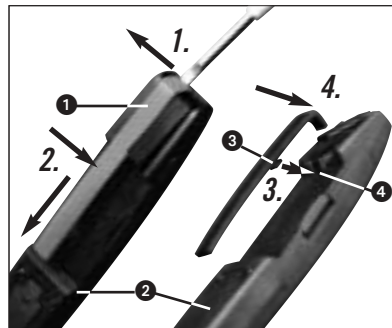

Fig. 7: Replacing the Clip
4.6 Replacing the Clip (Fig. 7)